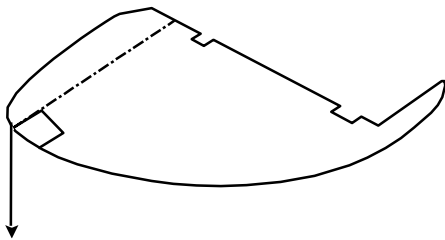

Figure 1 : Vertical stabilizer balancing
• Vertical stabilizer balancing (see figure 1)	1400 g +/-250 g - 3.08 lbs +/-0.55 lbs